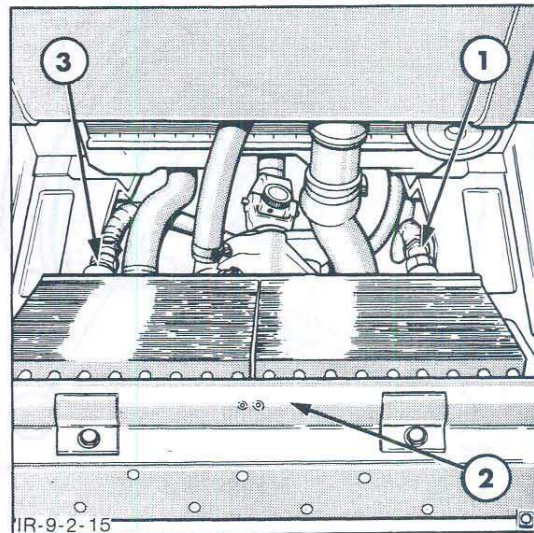

Figure 15
6. Disconnect the transmission oil cooler connections, Figure 15, taking care to collect the oil discharged from the cooler into a suitable container.